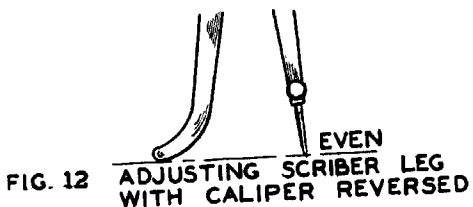

FIG. 12 ADJUSTING SCRIBER LEG WITH CALIPER REVERSED
- When scribing lines with the caliper reversed, set the scriber point to the full length of the caliper leg. (Fig. 12).